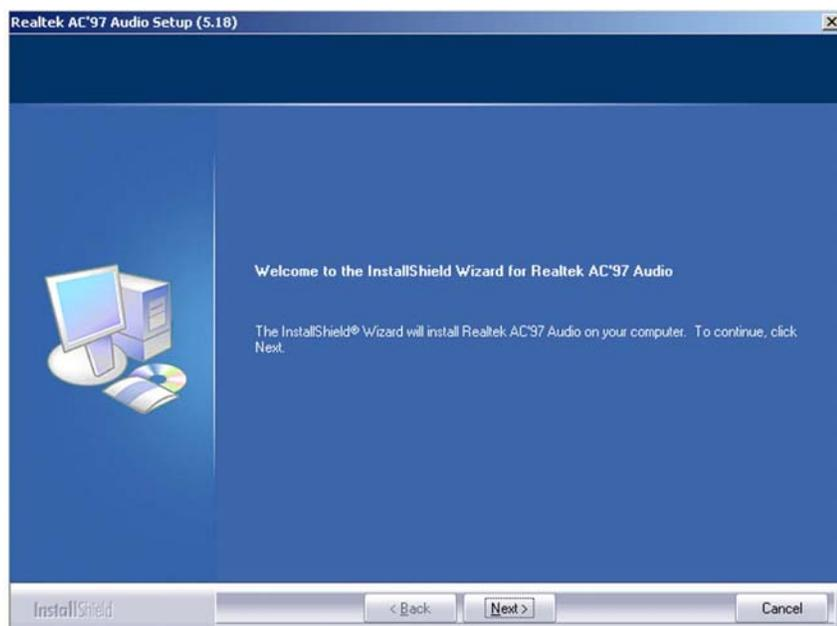
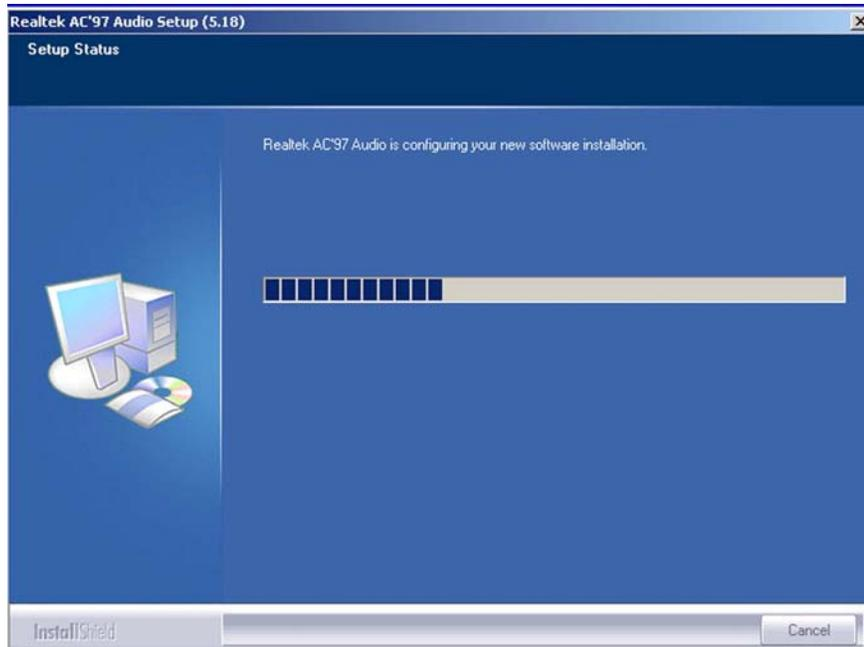

Figure 6-15: Audio Driver Welcome Screen
Figure 6-16: Audio Driver Software Configuration
Step 6: After install shield is prepared, the welcome screen shown in **Figure 6-15** appears. To continue the installation process, click the “NEXT” button. The install shield starts to configure the new software as shown in **Figure 6-16**.